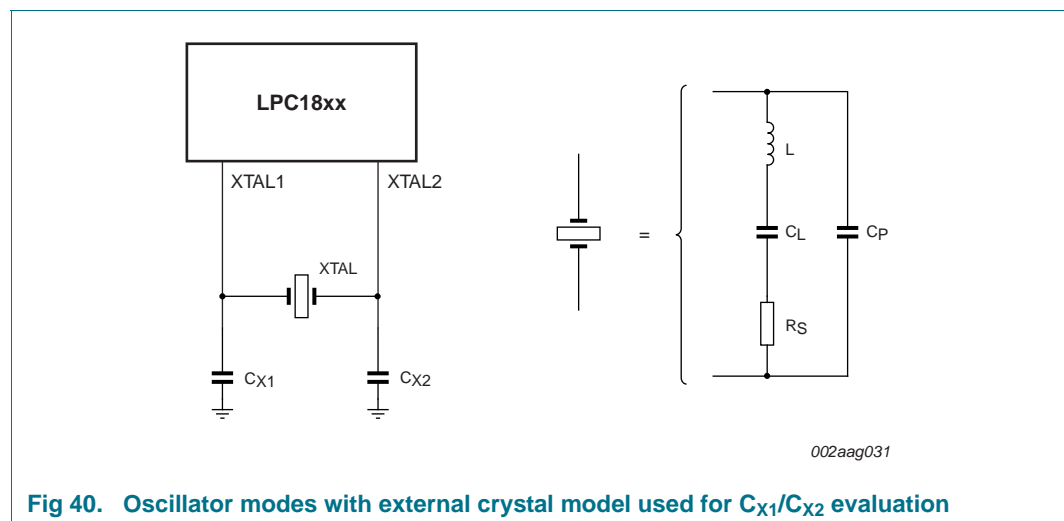

Fig 40. Oscillator modes with external crystal model used for C_{X1}/C_{X2} evaluation
- External components and models used in oscillation mode are shown in Figure 40, and in Table 32 and Table 33. Since the feedback resistance is integrated on chip, only a crystal and the capacitances C_{X1} and C_{X2} need to be connected externally in case of fundamental mode oscillation (L , C_L and R_s represent the fundamental frequency). Capacitance C_P in Figure 40 represents the parallel package capacitance and must not be larger than 7 pF. Parameters F_C , C_L , R_s and C_P are supplied by the crystal manufacturer.